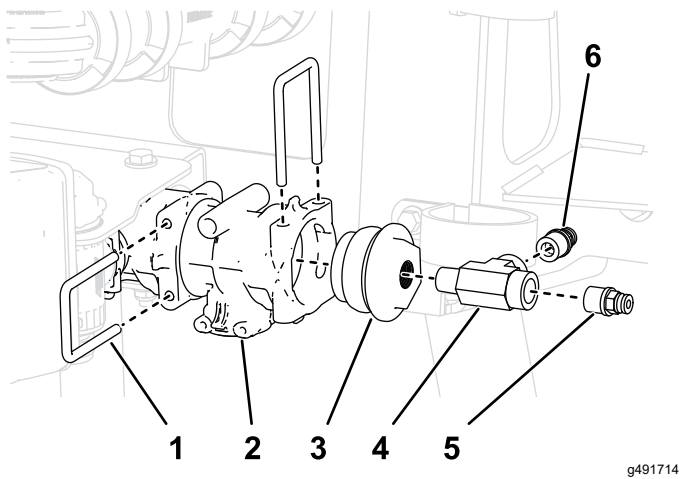

Figure 34
9. Apply PTFE sealant to the threads on the included threaded T-fitting, and connect the T-fitting to the fitting cap (Figure 34).